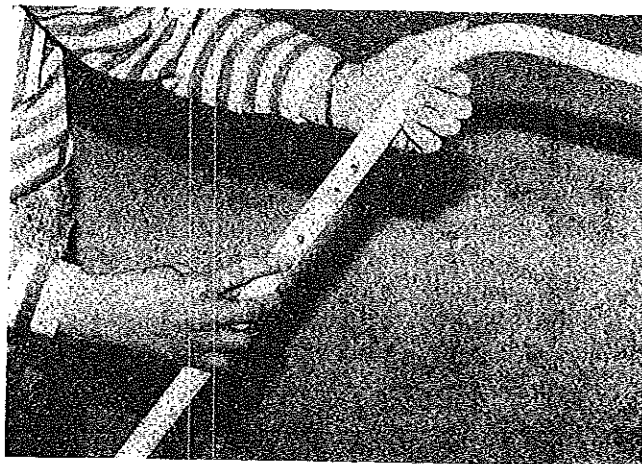

Figure 34
33. Adjust bed bow support as necessary to make the tent enclosure over the bed taut. This is done by pressing the release button on the pole and extending the rod to the next adjustable hole. See Figure 34.